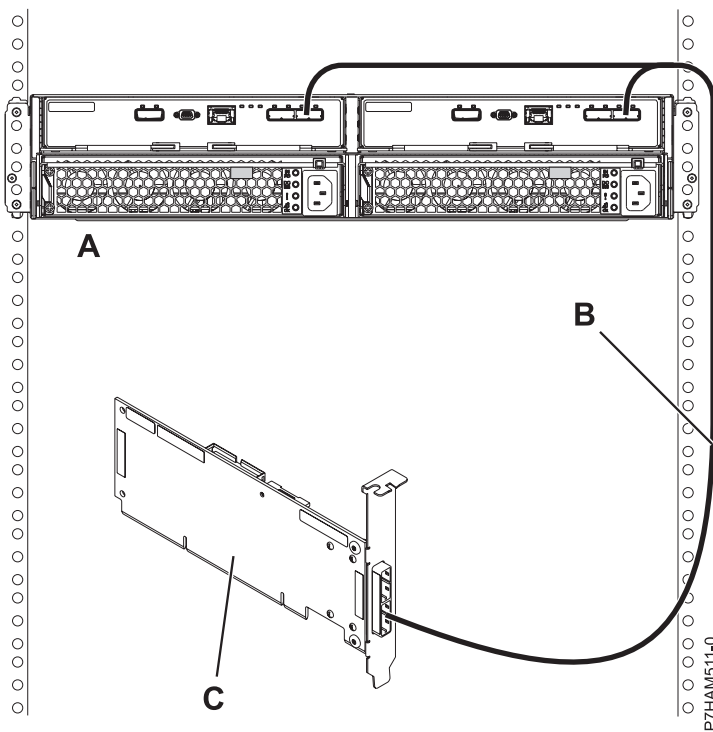

Figure 36. Mode 1 connection of one 5887 disk drive enclosure by using a YO cable to a single SAS adapter
13. Perform the mode 1 connection of one enclosure (A) by using a YO cable (B) to a single SAS adapter (C). See Figure 36.